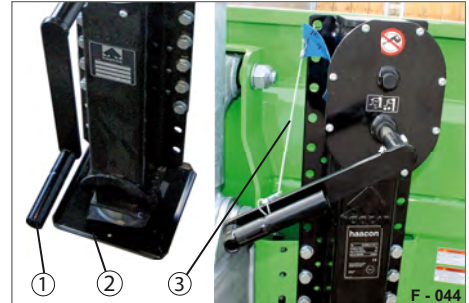

Fig. 25 Support foot retracted
- ▶ Secure the crank handle with the securing cable (Fig. 25/3).
- ▶ Crank the support foot (Fig. 25/2) to the top in overdrive.
- ▶ Wrap the securing cable (Fig. 25/3) around the crank handle and secure it with the hook.